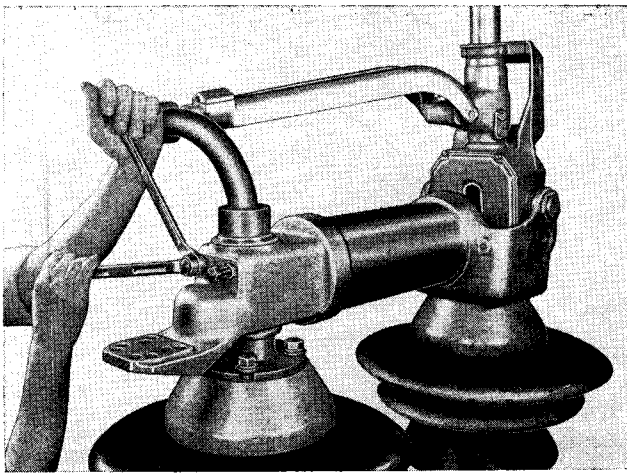

FIG. 3.
(C) The next step is to set the open position blade stop. (If these checks and adjustments are being made on the ground, the three pole units should be lined up side by side on a plane surface.) Open all three pole units, and stand back and sight across the three blades. The blade stops, should be set so that the blades are lined up uniformly when they are in the vertical position. If the blades do not line up uniformly it will be necessary to readjust the stops. Refer to Fig. 3 for this adjustment. The open position stop is the stud on the left as shown on Fig. 3. Turning this stud in will cause the blade to move toward the break jaw. Turning the stud out will allow the blade to be opened farther. When the proper setting of this stop is obtained, tighten the lock nut securely.
(D) The closed position stop on the right hand side, see Fig. 3, should be set so that the blade tip can be turned over flat in the break jaw.